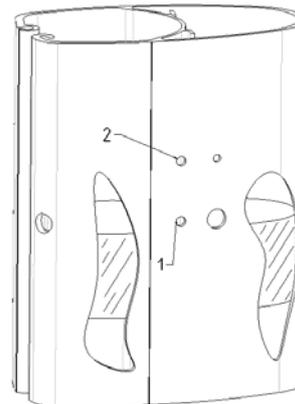

Fig. 5.a
- 5.1 With the mast in the horizontal position, inject sealing adhesive (such as Sikaflex) through the lower holes (see Figure 5.a). If the mast is standing, inject the sealing adhesive a little at a time, letting it harden between injections).